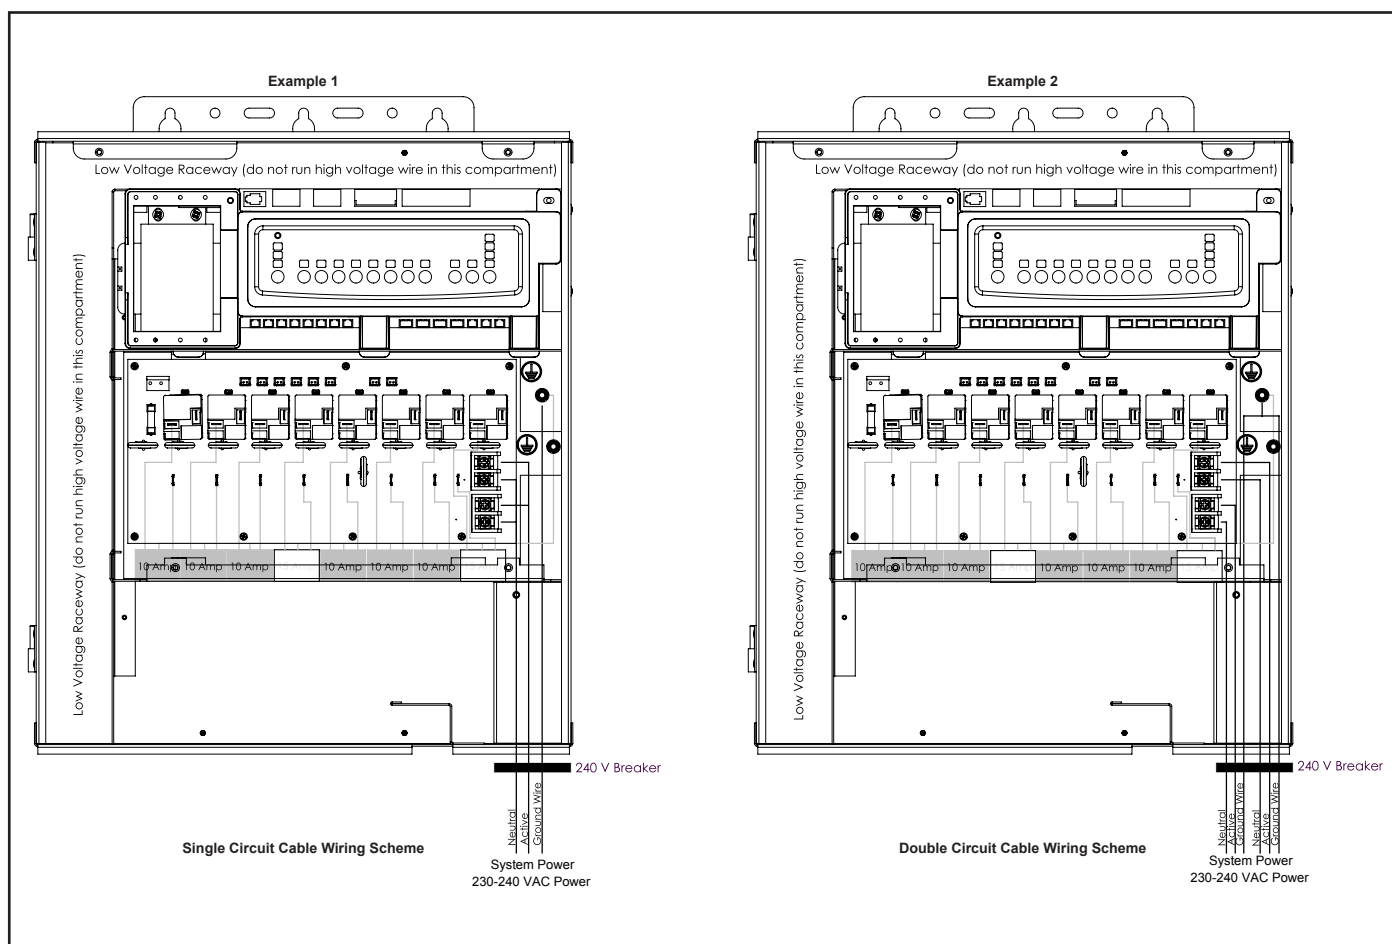

Figure 6. Standard Power Center - Bonding
Install a bonding lug to the power center enclosure. Connect the bond lug, using a #8 solid copper core wire, to an approved earth ground (an approved ground stake, grid, or conducting metal water pipe buried to a sufficient depth). See Figure 6.
5. Rotate the actuator while keeping the two shafts engaged until the screw holes on the actuator legs align with the empty screw holes (from step 2) in the valve (see Figure 6).
6. Use the four (4) large 2" Phillips head screws (included) to secure the JVA to the valve.